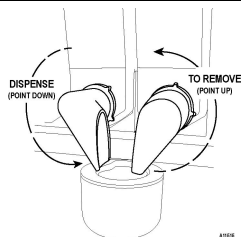

Figure 5b. Product Chute
2. Prior to removing an ingredient canister, rotate the delivery chute in an upward direction to prevent spillage of product onto internal surfaces. See **Figure 5b**.
13. Rotate the product chute so that it points down (dispense position) to the whipper bowl. See **Figure 5b**.